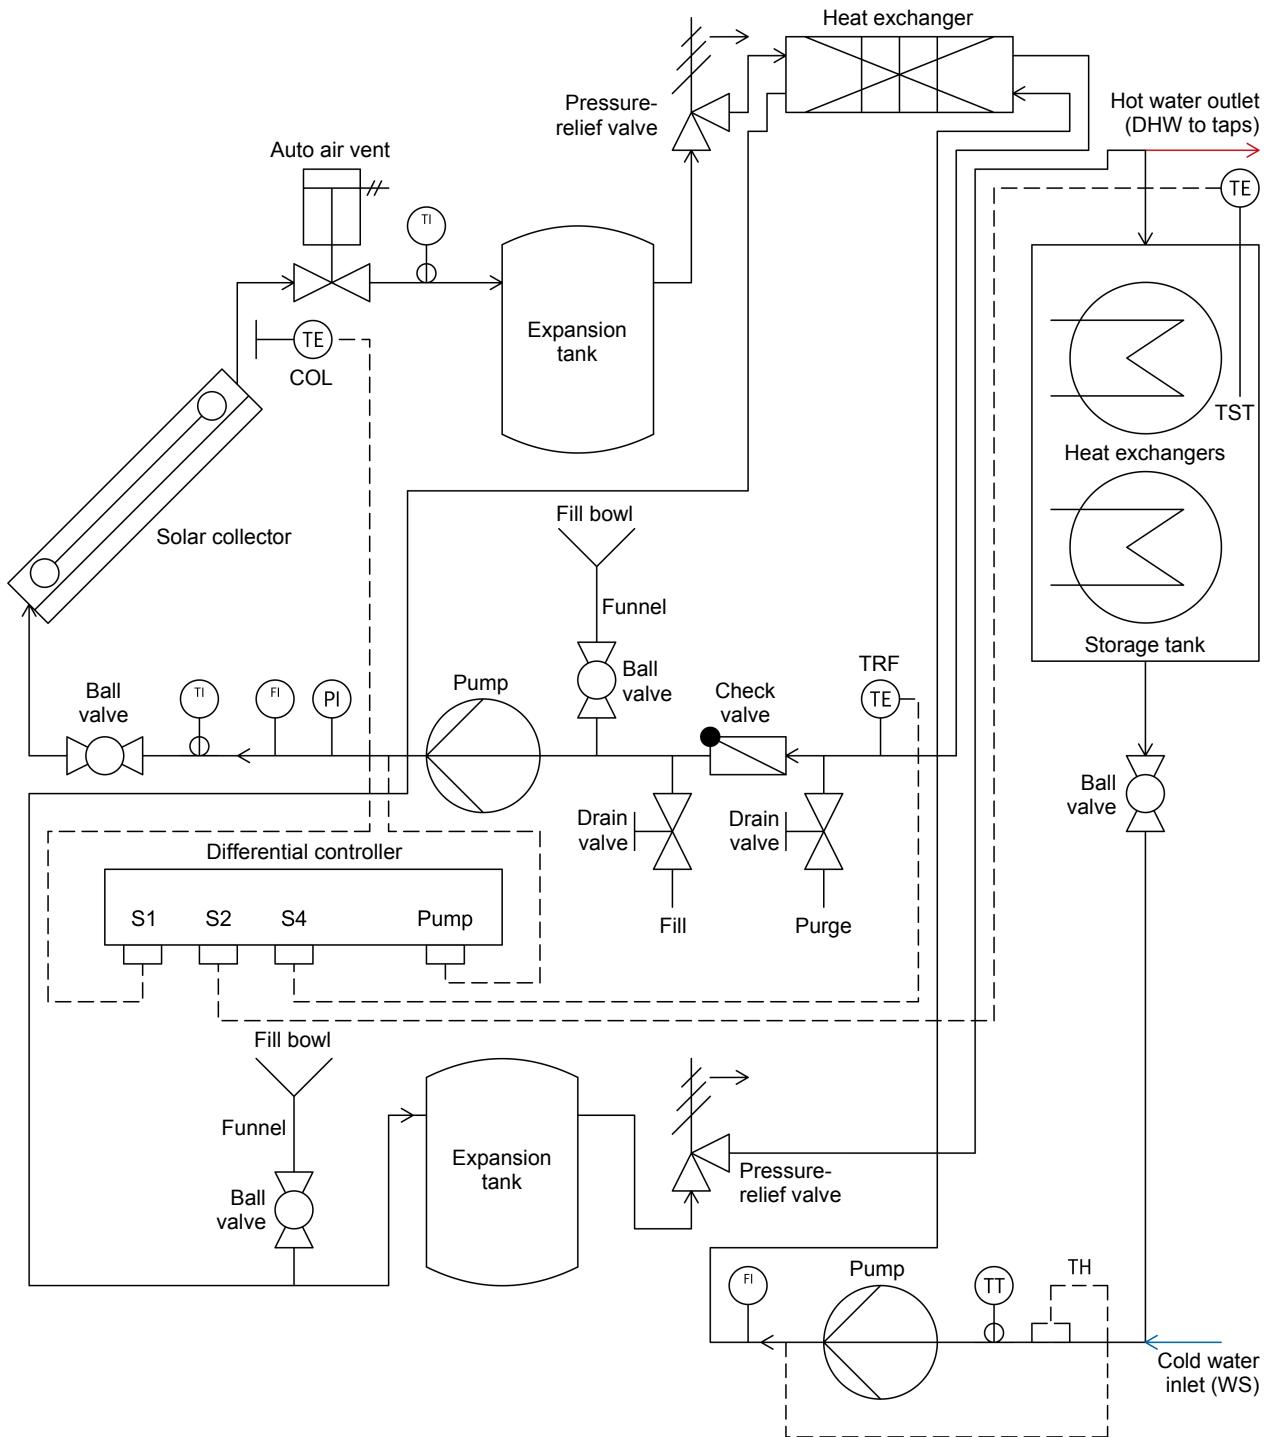
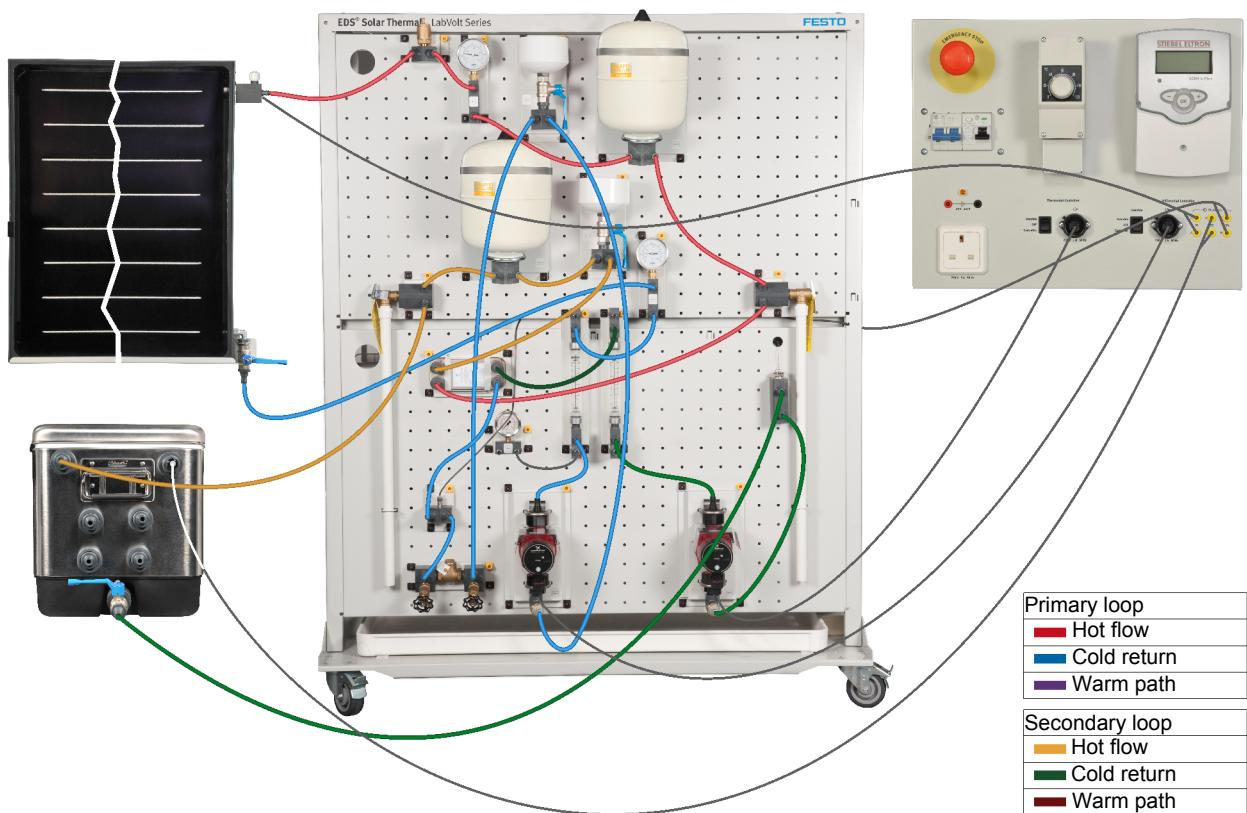

Figure 2. Closed-loop, water-heating antifreeze (storage) system schematic with external heat exchanger.
Figure 3. Closed-loop, water-heating antifreeze (storage) system configuration with external heat exchanger.
1. Figure 2 shows an indirect system with thermal storage.
2. Ensure that the following parts are mounted on the mobile workstation as shown in Figure 3.
- Circulator pumps (2)
- Expansion tanks (2)
- Thermometers (2)
- Rotameters (2)
5. Connect the necessary hoses as shown in Figure 2 and Figure 3.